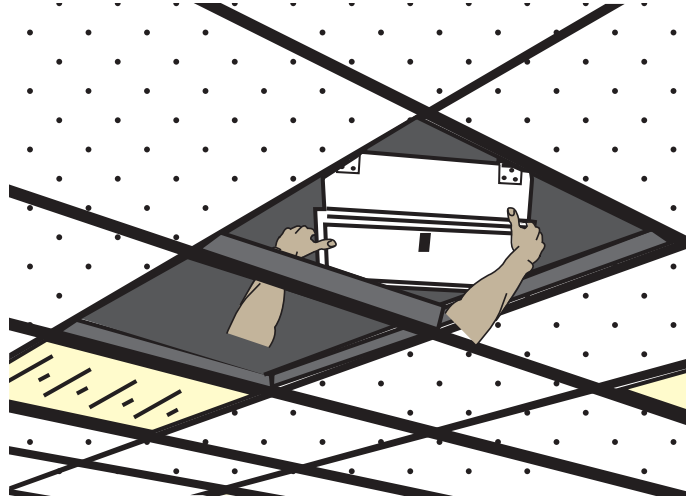

Figure 11
Step 6: Tilt the FZB at an angle to allow it to pass through with the trim plates and mounting brackets installed. Pass the box through the opening in the ceiling (Figure 11).